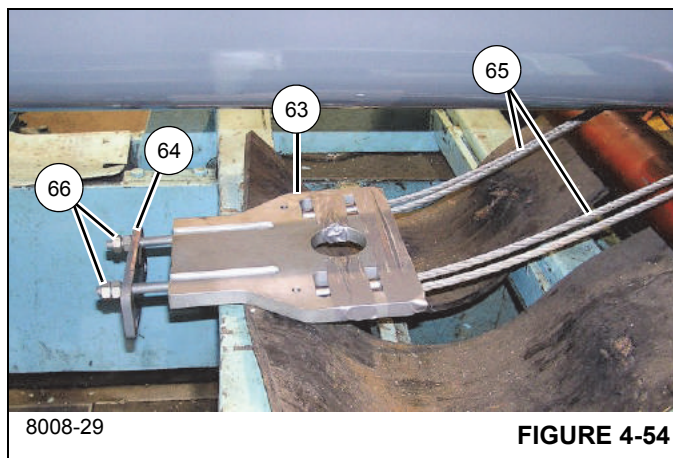

FIGURE 4-54
93. Align tele 1 and 2 with each other, then partially insert tele 2 (3) into tele 1 (2).
94. Use the shims (70) to adjust the tele 2 rear wear pad assemblies (71, 82) such that the wear pads are within 2 mm (0.08 in) of the sides and the bottom of tele 1. An equal number of shims should be used on each side.
95. Insert tele 2 (3) three-quarters of the way into tele 1 (2).
96. Install the shims (53) and the front lower wear pads (54, 55) into the bottom of tele 1 (2).
97. Install the left, right, and bottom keeper plates (2x-14, 13) to the front of tele 1 (2) using the bolts (19), flat washers (16), lock washers (17), and nuts (18).
98. Install the stop block (56) and shim (57) to the front of tele 1 (2) using the two bolts (58), four washers (16), two lock washers (17), and two nuts (18) (left and right sides).
99. After ensuring that the tele 3 retract cables (65) are not crossed, install the four cable ends into the slots of the retract anchor weldment (63); wrap duct tape around the anchor weldment to secure the cables in place (see Figure 4-54).
100. Install the anchor plate (64) onto the studs of the retract anchor weldment (63) and secure with the nuts (66) (see Figure 4-54).